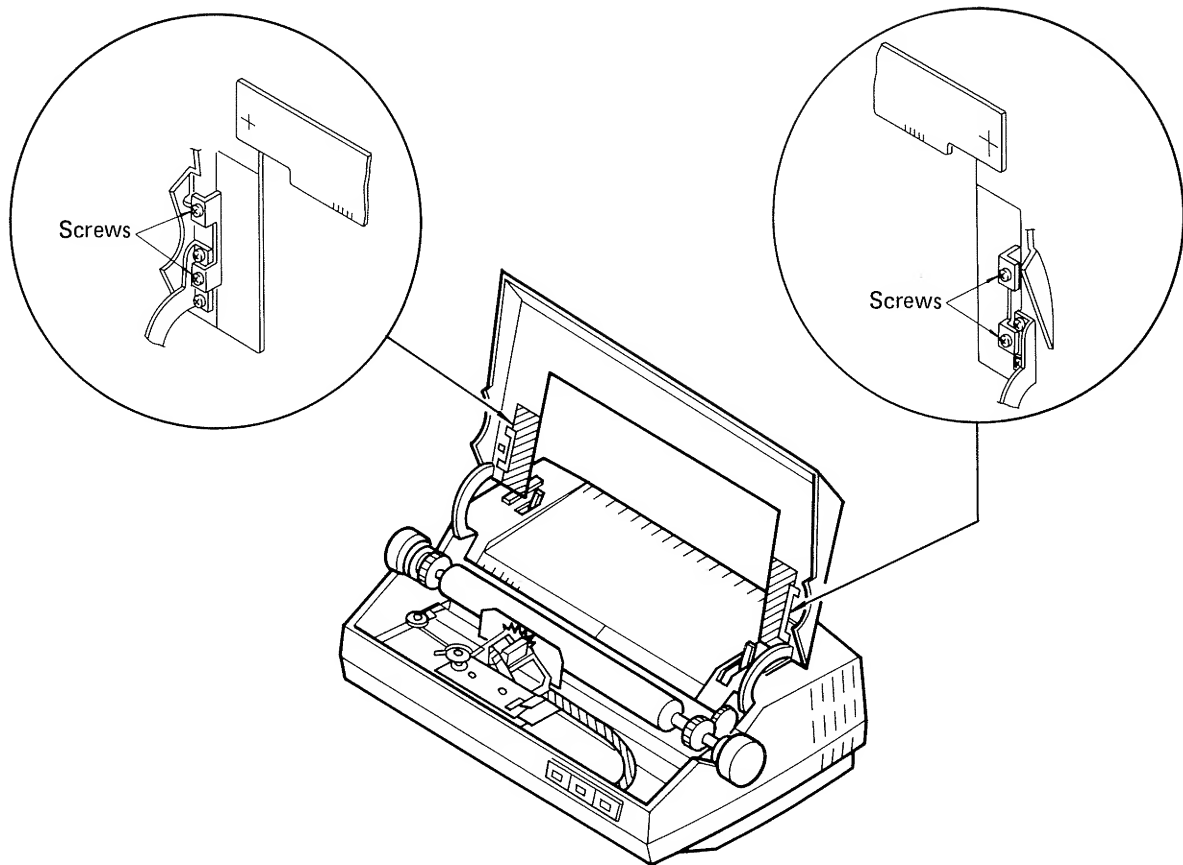

Figure 1
2. On each of the hinges (left and right) that hold the Cover, you'll find four screws. Take out the two smaller screws (on each side) and remove the Panels. (For safe keeping, reinsert the two screws into the holes.) See Figure 1.